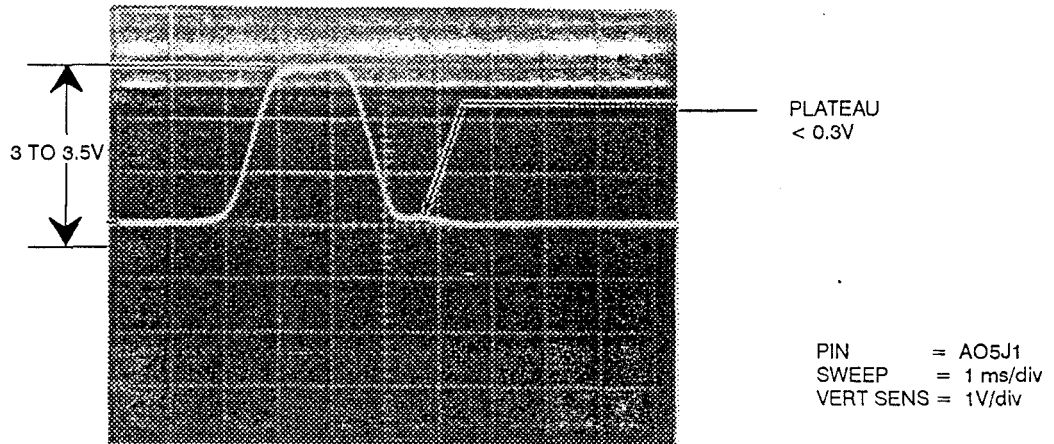

FIGURE 4.8
4. Set the scope vertical sensitivity to 1 V/div and observe A05J1 (LIMIT) for a scope display as shown in Figure 4.8. The waveform peak amplitude must be 3 to 3.5 volts with a minimum level of 0.0 volts. In addition, the plateau immediately following the trailing edge must not exceed 0.3 volts. IF NOT, remove jumpers and perform Step 4.2.14. STATIC LIMIT Adjustment.